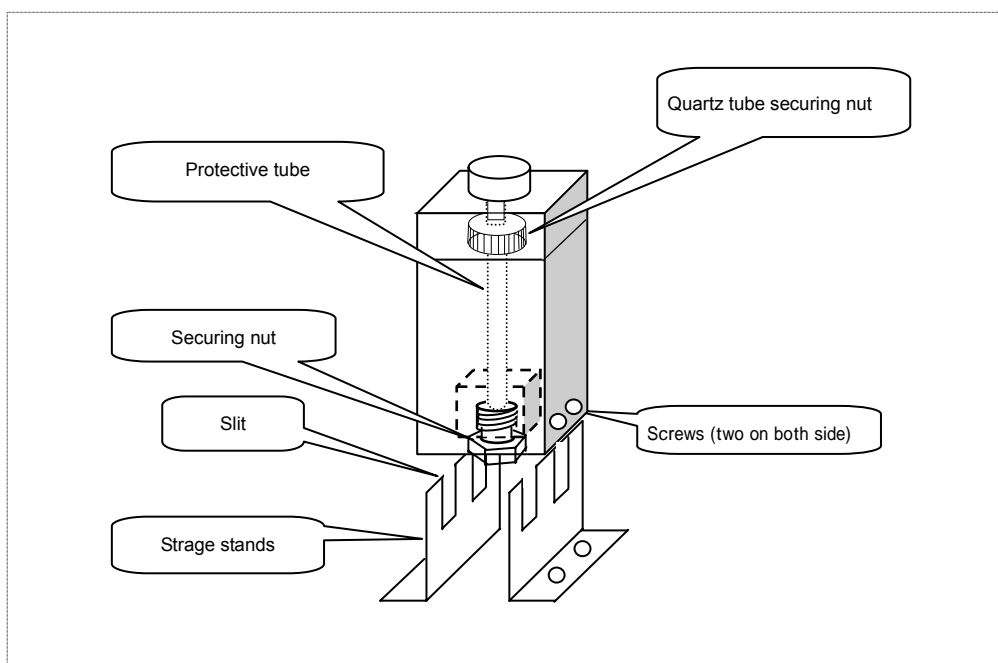

Fig.3.7 Removing protective tube
STEP 5 Removing the stainless steel protective tube in the Pyrolyzer (Fig. 3.7)